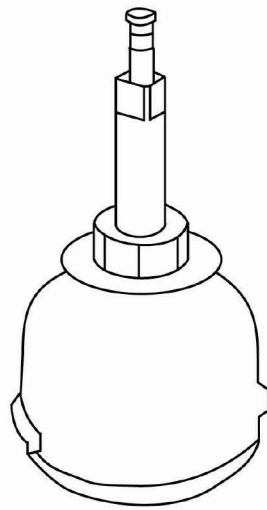

Figure A21 - Wask Fitting Head and With Spindle Attached
8. Check that the valve is open and lower the drill spindle (2) onto the main. Position the ratchet handle with the chamfer upward on top of the drilling spindle and swing the bridge into position.
10. Withdraw the drill spindle (2) and retain in raised position with securing pin. Close the gate valve (note that mark on valve actuating spindle points to the position of the valve plate).
11. The gas pressure in the drill head (1) be vented by pressing the vent button. Should gas continue to pass the vent the gate should be re-opened and closed once again. If gas continues to vent, **breathing apparatus shall be worn during the installation of the service tee.**
12. Keeping the button depressed rotate the drill head (1) anti-clockwise using the large spanner provided. Remove the drill head.
13. Take the carrier spindle and required fitting and slide into the fitting head (Figure A21), tightening gland nut hand tight. Locate head in a similar manner to that of the drilling head keeping the gate valve closed.